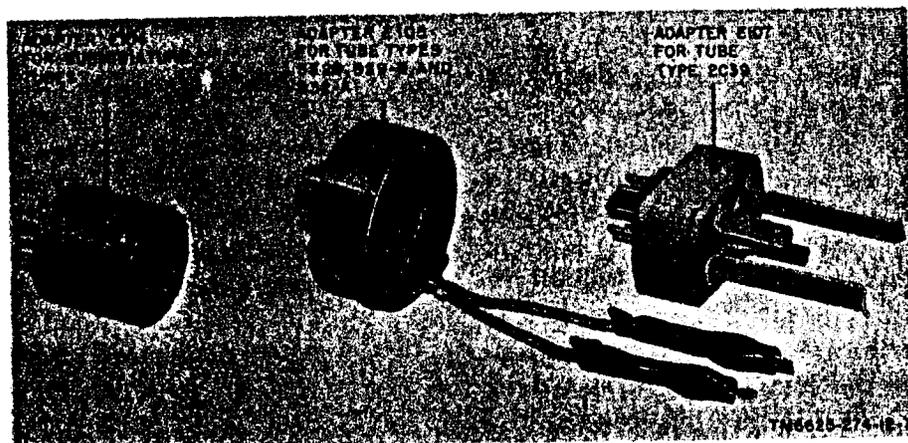

Figure 8. Adapters E104, E105, and E107.
- a. Check to see that the adapters (fig. 8) are held firmly to the cover.
a. Adapter E104. Adapter E104 (fig. 8) enables subminiature tubes with long leads to
b. Adapter E105. Adapter E105 (fig. 8) enables tube type 3E29, 829-B, or 832-A to be tested in the OCTAL socket of the test set. The adapter consists of a special socket for these tubes mounted on an octal base. The two leads on the adapter connect to the two plate caps of the tube under test.
c. Adapter E107. Adapter E107 (fig. 8) enables tube type 2C39 (a lighthouse tube) to be tested in the OCTAL socket of the test set. The three pairs of spring contacts, from the center outward, connect to the cathode and one side of the filament, to the grid, and to the plate, respectively, of the tube under test. The center contact connects to the other side of the filament of the tube under test.